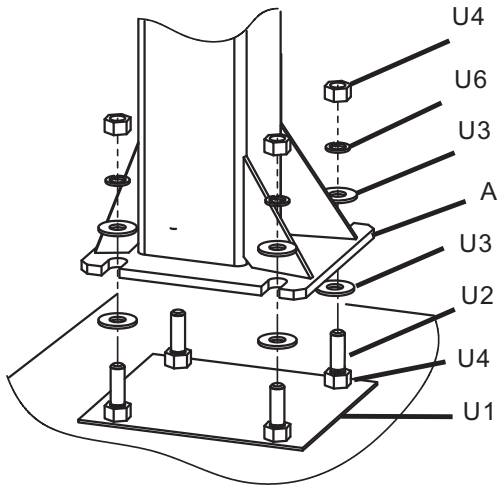

Figure 3
Place the Pole on the Anchor system. Slide one Thick Washer (U3) over each J-bolt (U2). Lift the Pole (A) onto Anchor system, secure with one Thick Washer (U3), one Lock Washer (U6) and one Hex Nut (U4) for each J-bolt. See **Figure 3**.